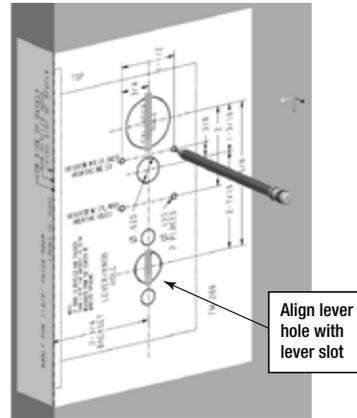

Figure 1
1. Using door marker FM298, mark holes. (Figure 1)